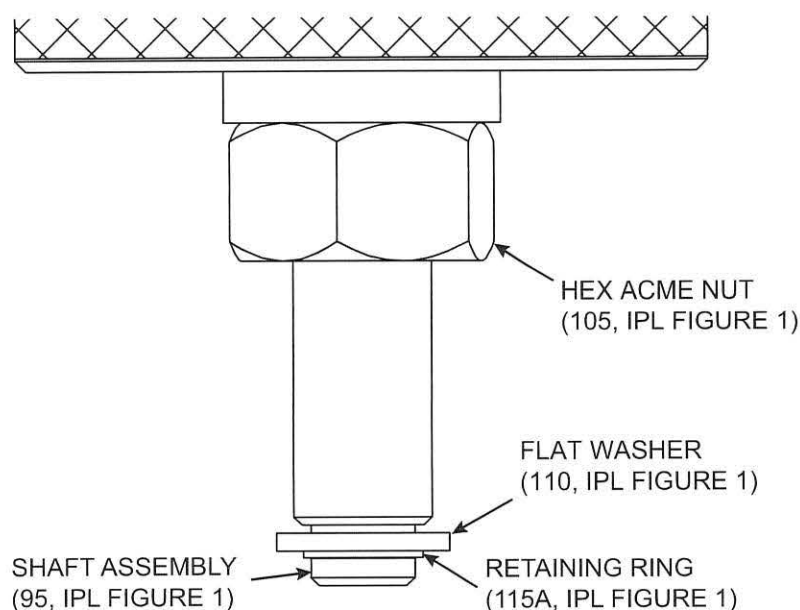

Figure 2-5. Installation of Retaining Ring
- (6) Install the cable retainer (75), tension load cell (80), and shaft assembly (95) as an assembly into the housing (90). Align the shaft assembly (95) plate with the two dowel pins installed in the housing (90). Make sure the tension load cell (80) wire harness is aligned properly and exits through the opening/window provided in the housing (90).
- (7) Install the flat washer (100) onto the shaft assembly (95).
- (8) Assemble the hex ACME nut (105) onto the shaft assembly (95). Do not fully tighten the hex ACME nut (105) (only tighten for 4 to 6 threads).
- (9) Install the flat washer (110) and the retaining ring (115A). Make sure that the retaining ring (115A) is correctly installed in the first groove of the shaft assembly (95) (see Figure 2-5).